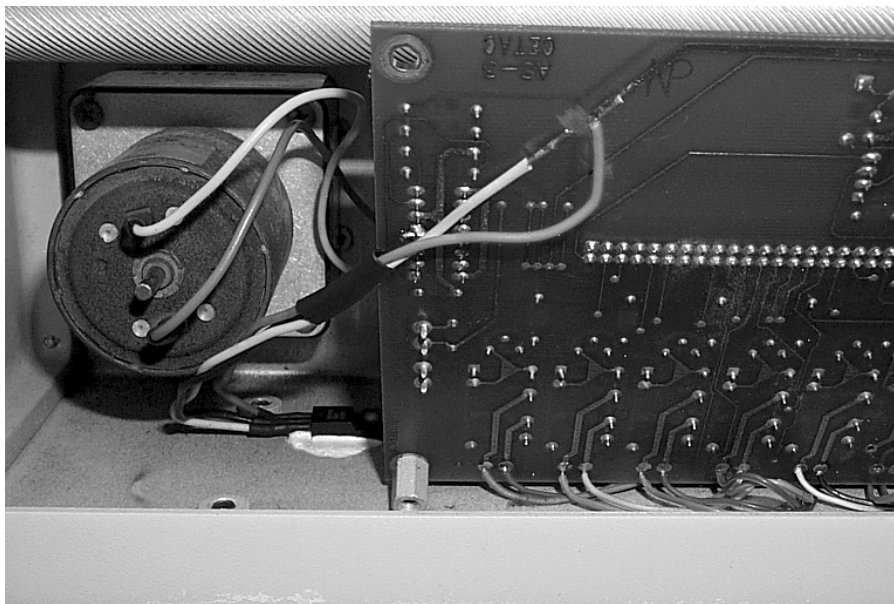

Figure 1-14. Bottom view of Main board.
12. Locate the orange and yellow wires that are attached to the Main board. Cut them as close as possible to the voltage regulator which is attached to the bottom left of the cabinet. See Figure 1-14.